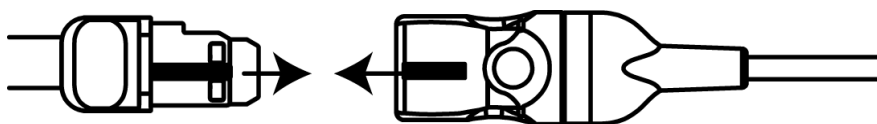

Figure 12-13 Connecting a sensor to the sensor cable connector
- 3 Position the sensor connector in front of the sensor cable connector and align the marks on each (figure 12-13).